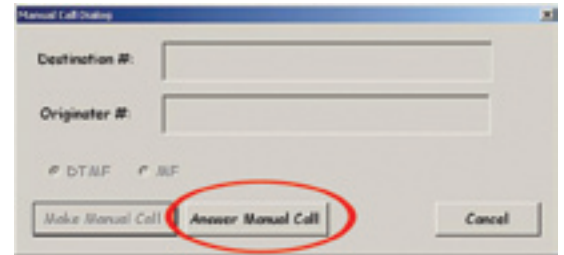

Figure 39
9. While still on PCM 2, Channel 1 click the manual button. This action launches the "Manual Call Dialog" box. Because the selected test on PCM 2, Channel 1 is a responder only the "Answer Manual Call" button is active (see figure 39). To place the Send/Measure Tone responder in a wait to answer call state click the "Answer Manual Call" Button.